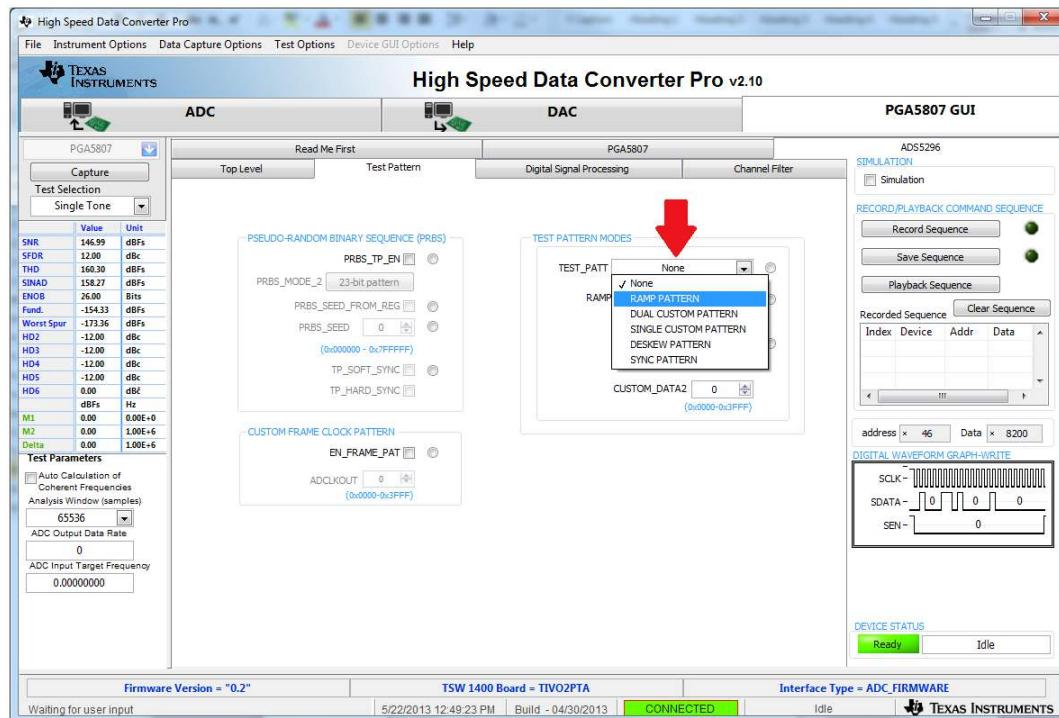

Figure 32. ADS5296A Setup for RAMP Test
1. Within the **ADS5296** tab, press on the sub-tab labeled *Test Pattern* and select **RAMP PATTERN** within the **TEST_PATT** menu as shown in Figure 32.